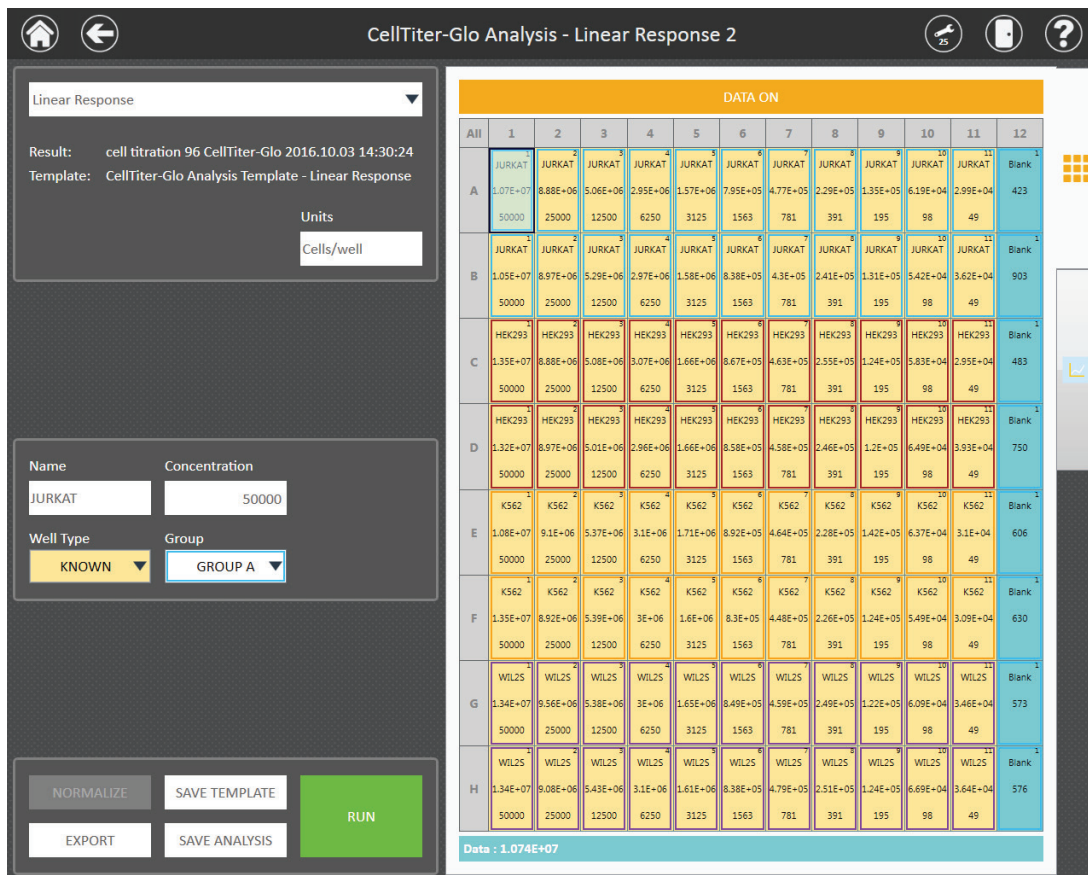

Figure 72. Once a template has been applied to the data, touch the Run button to analyze the results.
1. Once a template has been assigned to the result file, touch the green **Run** button near the bottom of the left side of the screen to perform the analysis of samples (Figure 72). When the analysis is completed, an "Analysis has successfully completed" message will appear on the screen. Select **OK** to view the analyzed results.
Data from the plate read will be populated in the center of the wells on the plate map. To view results of a single-read analysis, toggle the data displayed in the wells of the plate using the **Data On/Off** button at the top of the screen (Figure 72).